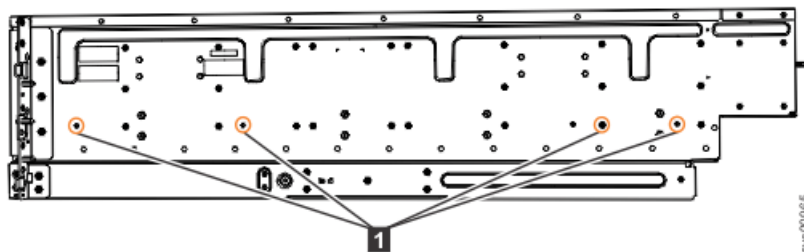

Figure 24. Screw locations to attach the inner rail to the enclosure
4. Use four M4 screws to attach the inner rail to the side of the enclosure. Figure 24 on page 46 shows the screw locations.